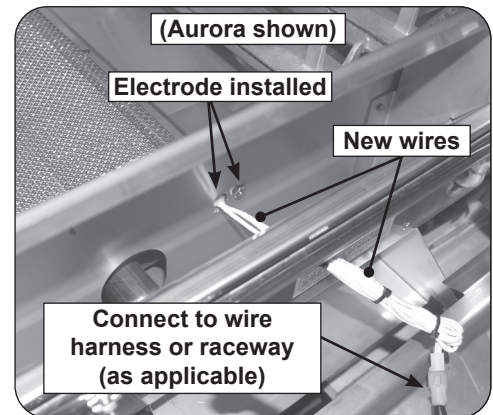

Fig. 4-3 Connect new electrode wires
9. Connect the electrode wire to the available wire harness connector or raceway connector used to connect the old electrode (Fig. 4-3). Test the igniter by reconnecting the power and pressing the corresponding control knob (or igniter button) and observing that the tip of the igniter glows orange.